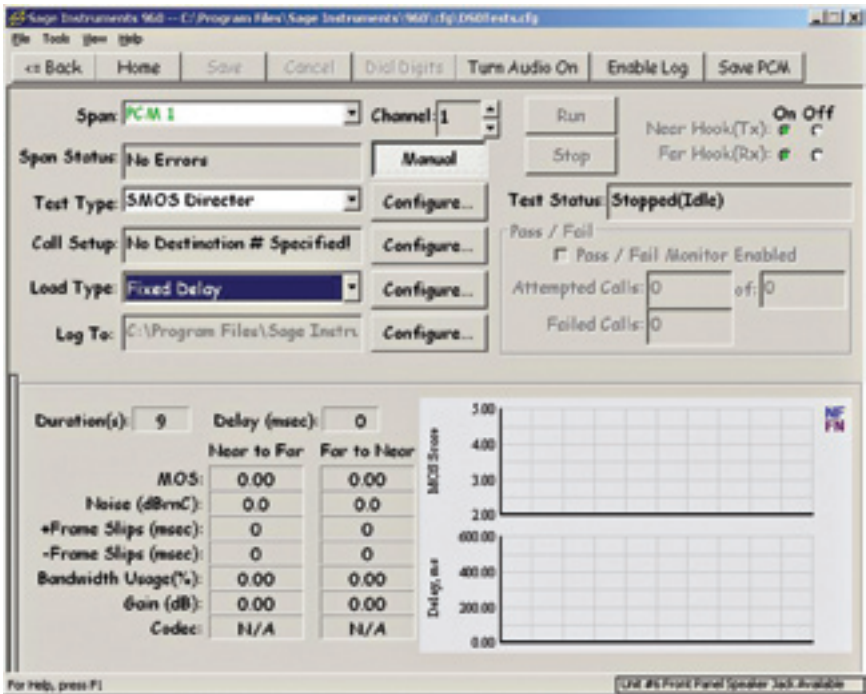

Figure 52
The SAGE 960B SMOS Director test utilizes six (6) screens for configuration of the test parameters (see figures 52 through 56). For manual mode (6th screen) see page 40.
Figure 52 shows the main test screen with the “SMOS Director” test selected and saved. When clicked the four (4) “Configure” buttons down the center of the main screen display the test configuration windows at right.